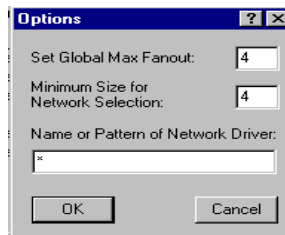

Figure 6-26. Buffer Manager Options dialog box
3. **Ensure that Global Max fanout is set to 4, and Minimum size for Network Selection is set to 4, as shown in Figure 6-26.** Click OK.